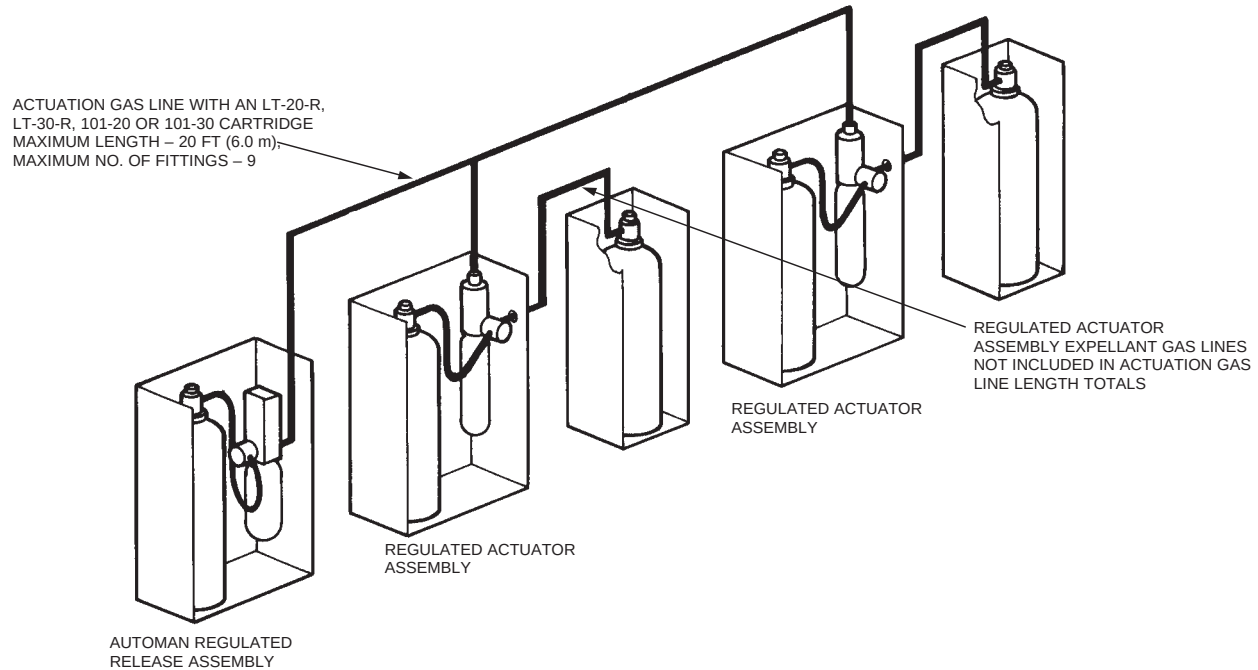

FIGURE 5-16
3. The total combined length of the actuation gas line from the regulated release assembly to all regulated actuator assemblies must not exceed 20 ft (6 m) when using an LT-20-R nitrogen cartridge, an LT-30-R nitrogen cartridge, a 101-10 CO₂ cartridge, or a 101-20 CO₂ cartridge. See Figure 5-16.